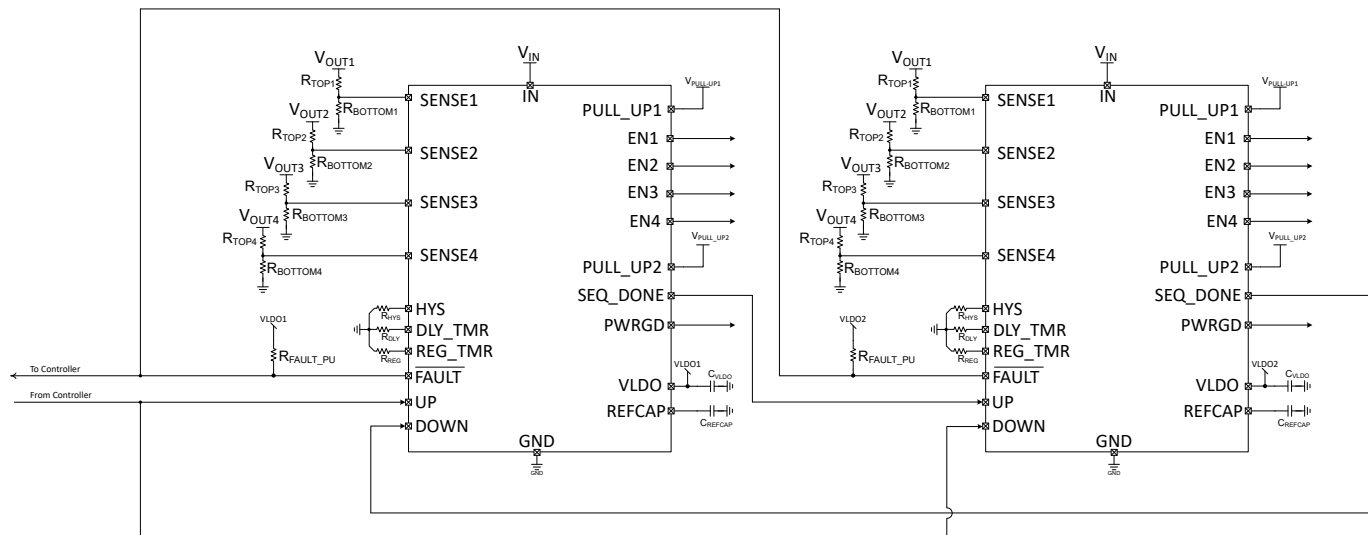

图 7-13. Daisy Chain Configuration
The TPS7H3014 incorporates four input channels to sequence/monitor up to four voltage rails. However, in the case where more than four channels are needed in the application, multiple devices can be daisy chained as needed. The daisy chain configuration is shown in Figure 7-13. In this case, only two devices are shown, however multiple IC can be configured as needed by the application.
3. PULL_UP2, which is the input supply to program the output voltage high (V_{OH}) of PWRGD and SEQ_DONE outputs. These outputs are typically connected to the system controller (typically an FPGA or ASIC) and/or to the house-keeping controller. In daisy chain configurations, SEQ_DONE is connected to UP of subsequent TPS7H3014 I.C. as shown in 图 7-13. It is recommended to decouple this power supply with at least 1 μF as close to the pin as possible. In this application, the V_{PULL_UP1} = 3.3V. This is a typical voltage of controller I/Os.